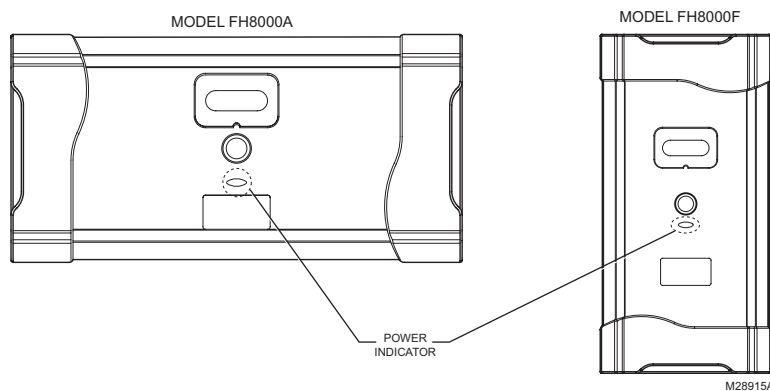

Fig. 17. Power Indicator
- d. The power indicator light below the Honeywell Enhanced Air Cleaner power switch will illuminate (see Fig. 17).
The Honeywell Enhanced Air Cleaner is equipped with a power indicator light located on the door (see Fig. 17 on page 19). This power indicator light illuminates when the Honeywell Enhanced Air Cleaner door is installed, the power switch is in the on position, AND the air handler blower or furnace blower is running and (for FH8000A) airflow is sensed. If the power indicator light is not illuminated, follow the troubleshooting steps below.